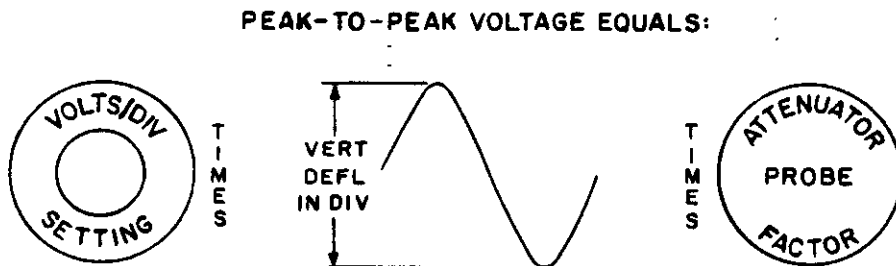

FIGURE 2-12. PEAK-TO-PEAK VOLTAGE MEASUREMENTS
b. MEASURING PEAK-TO-PEAK VOLTAGES (Figure 2-12)